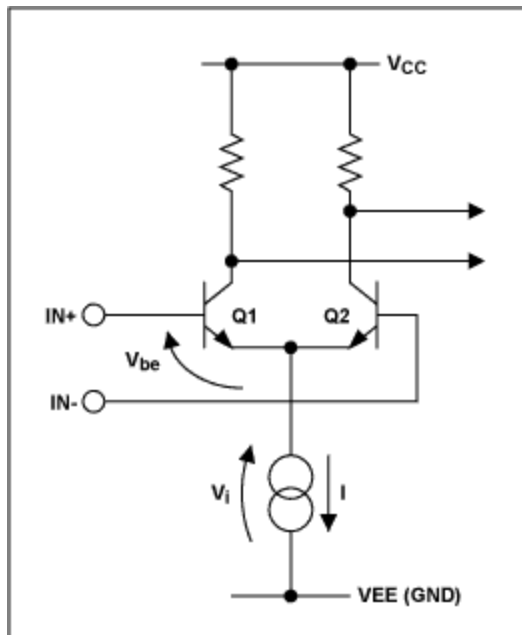
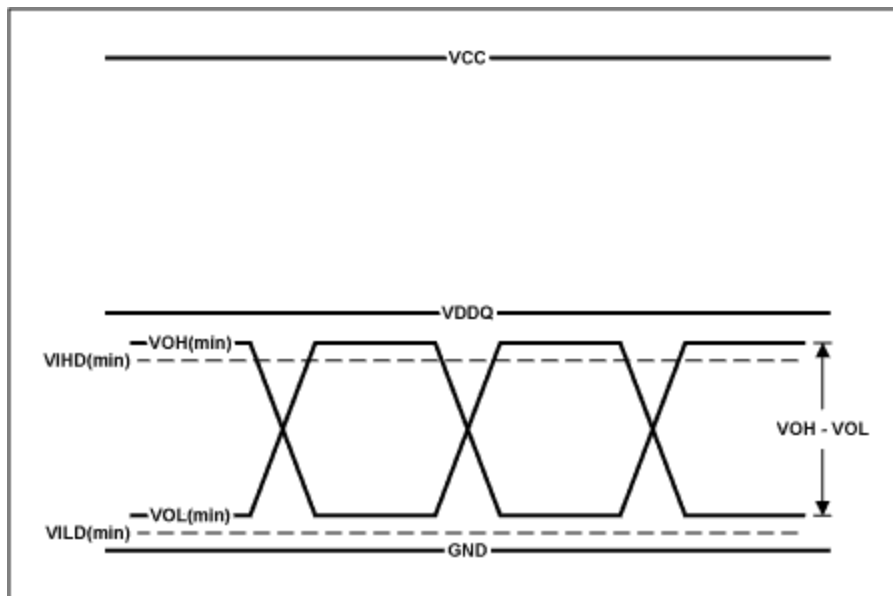
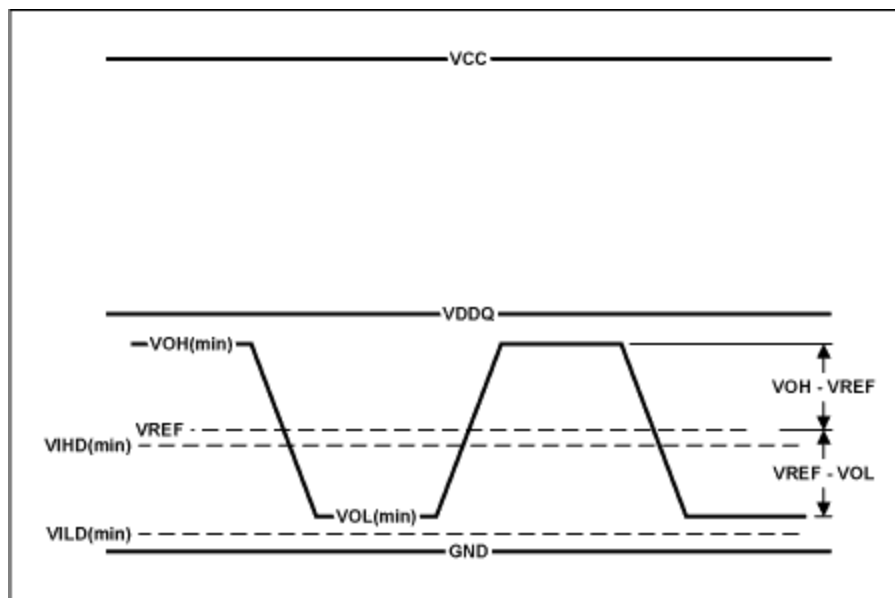

Figure 2. Simplified PECL input stage.
Figure 3. Conditions for compatibility between differential HSTL output and PECL input.
Figure 4. Conditions for compatibility between single ended HSTL output and PECL input.
Figure 2 illustrates a simplified PECL input stage comprising a differential pair (Q1, Q2) and a tail current source (I). The input transistors will switch depending on the relative voltages at the inputs IN+ and IN-. If IN+ is at a more positive voltage than IN-, Q1 will turn on and Q2 will turn off. The converse is true if IN- is more positive than IN+. A differential signal of only a few milli-volts is typically required to switch the input transistors although a larger voltage than this is required to guarantee the device output levels quoted in a datasheet. Most PECL datasheets specify a differential input voltage (V_{ID}) of at least 100mV to guarantee the specified output levels. Figure 4 shows example data sheet values for a PECL input stage with a V_{ID} range of 100mV to 3V.
Figure 3 illustrates these conditions for compatibility in the form of a signal trace.
Single-ended HSTL signals typically swing about a reference voltage of approximately 0.75V. An ideal single ended receiver would switch as the HSTL signal transitions through the 0.75V reference point. A differential input would be configured as an ideal receiver by connecting the single ended signal to one input, and applying a 0.75V reference to the other. The input stage shown in Figure 3 would be configured as a non-inverting single ended receiver by connecting the incoming signal to $IN+$ and applying the reference to $IN-$. In this situation the (differential) input stage sees a high level equal to V_{OH} when the input is high and V_{REF} when the input is low. For a PECL input stage to perform as an ideal single ended receiver the specified value for $V_{IHD}(\min)$ would have to be less than or equal to the reference voltage V_{REF} . This situation is illustrated in Figure 4. Limitations on the differential voltage and differential voltage low level specifications apply as with the differential signaling case except that the differential voltage is given by the relationship between the signal high and low levels and V_{REF} .